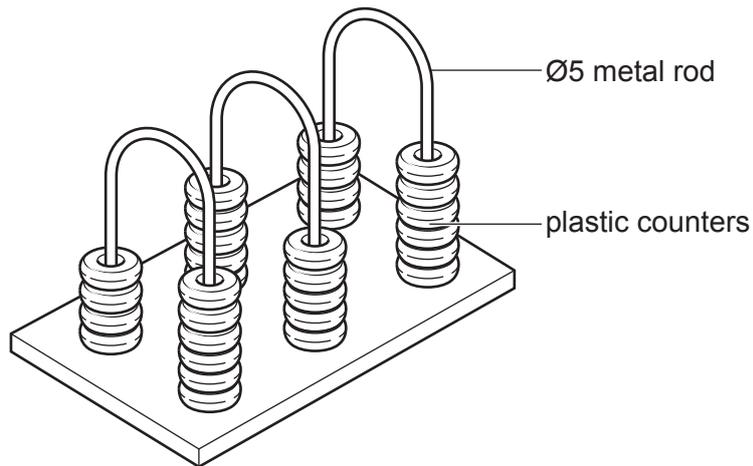

Fig. 9.1
- 9 Fig. 9.1 shows a child's counting toy that could be made in a school workshop.